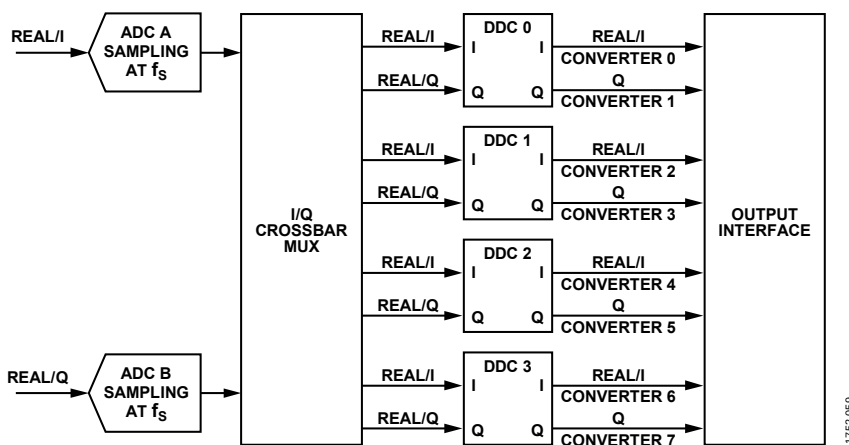

Figure 141. DDCs and Virtual Converter Mapping
The JESD204B Tx block for AD9680 supports up to four DDC blocks. Each DDC block outputs either two sample streams (I/Q) for the complex data components (real + imaginary), or one sample stream for real (I) data. The JESD204B interface can be configured to use up to eight virtual converters depending on the DDC configuration. Figure 141 shows the virtual converters and their relationship to the DDC outputs when complex outputs are used. Table 25 shows the virtual converter mapping for each chip operating mode when channel swapping is disabled.
If the internal DDCs are used for on-chip digital processing, M represents the number of virtual converters. The virtual converter mapping setup is shown in Figure 141.